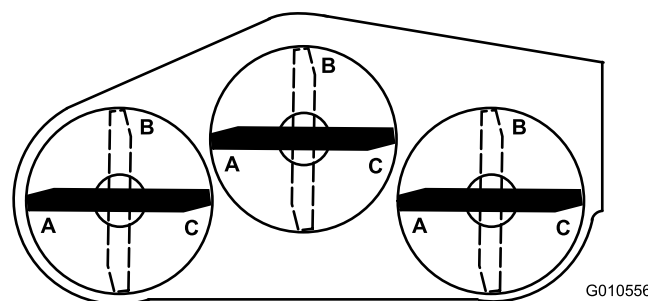
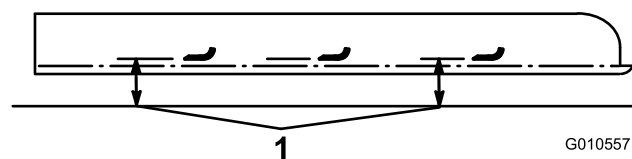

Figure 27
Figure 28
6. Position all 3 blades in the A position (Figure 27), and measure from the level surface to the bottom of the tip end of each blade (Figure 28), and note the measurement.
7. Rotate the blades to the B position (Figure 27), measure the distance of all of the blades to the level surface, and note the dimensions (Figure 28).
8. Rotate the blades to the C position, measure, and note the distance measured (Figure 27 and Figure 28).